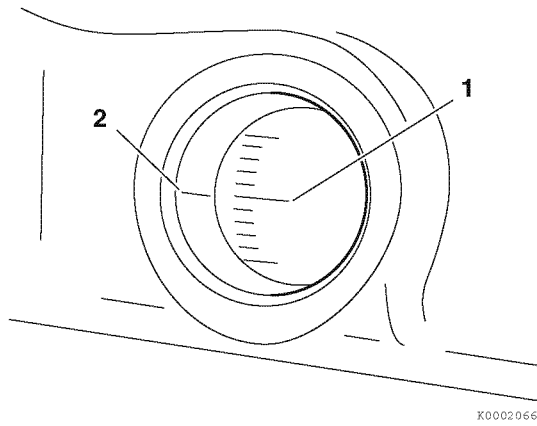

Figure 7-48
2. Rotate the flywheel until the target timing mark (1, **Figure 7-48**) and the timing reference mark (2, **Figure 7-48**) on the flywheel housing or back plate are aligned.